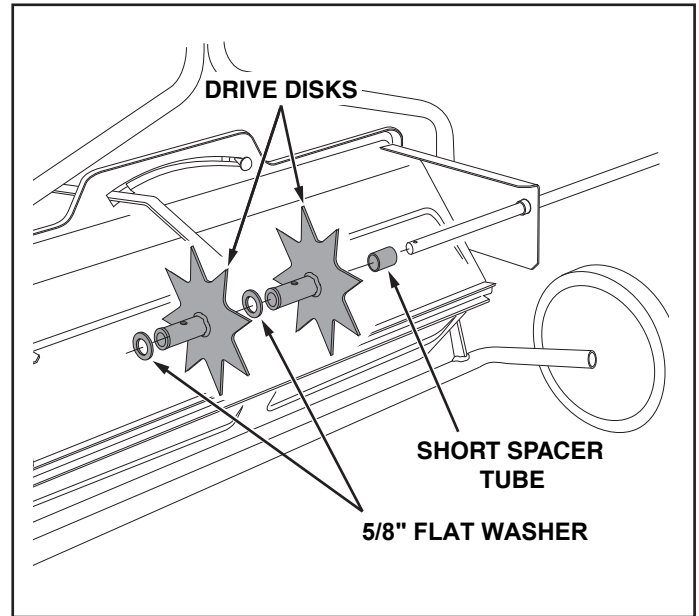

FIGURE 14
- Place a short spacer tube, a drive disk, a 5/8" flat washer, another drive disk and a second 5/8" flat washer onto the shaft. Fit the short spacer tube onto the flanged bearing in the end plate. See figure 14.